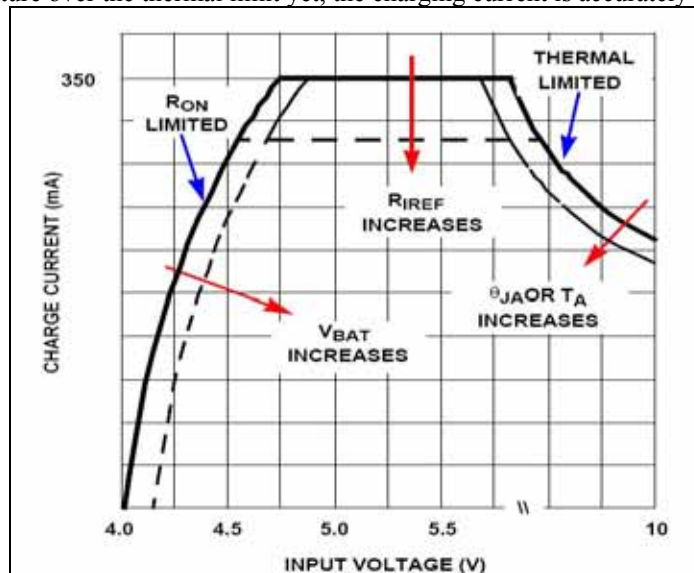

Figure 5: PT8A2803 Charge Current Limits In CC Mode
During the constant-current (CC) charging mode, the charging current is primarily determined by I_{CHG} as calculated in previous formula. However, the actual charge current in the CC mode could also be limited by other factors as described by below **Figure 5**. When the input (VIN) and output (VBAT) voltage are too close to each other, the on-resistance of the internal pass element may limit the amount of current that passes through it. For example, the solid curve describes a typical case in which the battery voltage is 4.0V and the charge current (I_{CHG}) is set at 350mA. When the input voltage is sufficiently higher than the battery voltage but has not increased the die temperature over the thermal limit yet, the charging current is accurately regulated at 350mA.